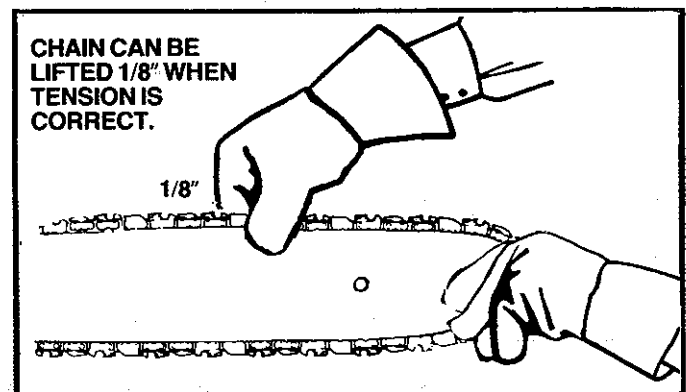

Figure 13
2. Check the tension by lifting the chain from the Guide Bar at the center of the bar. Figure 13.